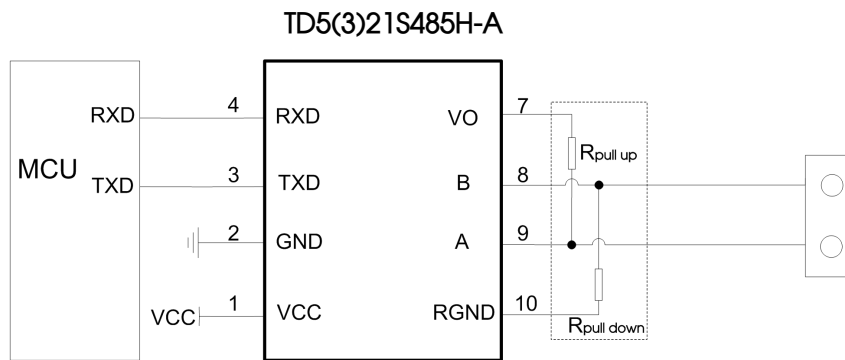
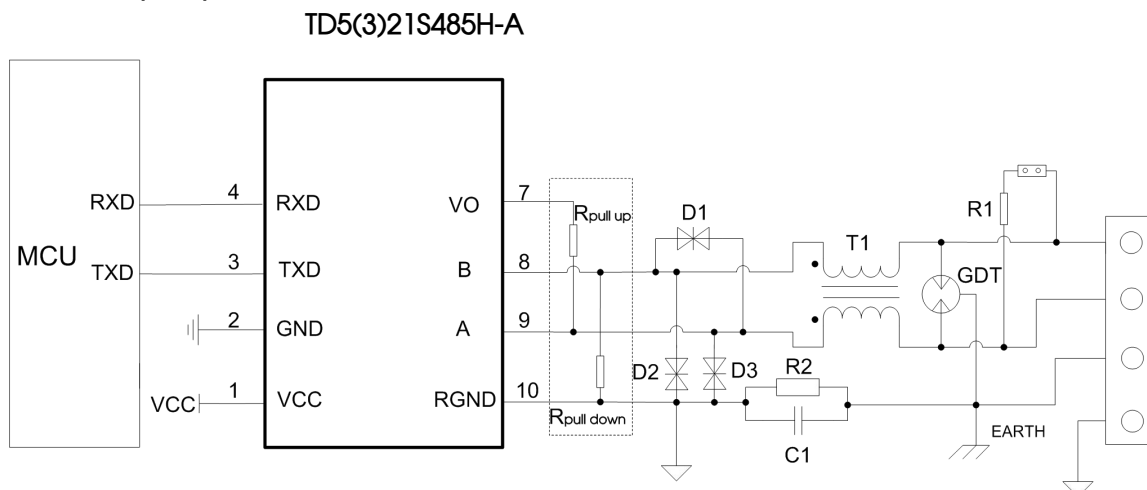

Fig.1
Fig.2
IEC/EN 61000-4-2	Contact $\pm 8kV$ (see Fig.2, A,B port) Perf. Criteria B
IEC/EN 61000-4-5	$\pm 4kV$ (see Fig.2, A,B port) Perf. Criteria B
As shown in Figure 1, the picture shows TD5 (3) 21S485H-A isolated transceiver module typical connection circuit, R pull-up, R pull-down for the external reserve pull-down resistor bit, according to the actual situation to choose whether the need for external up and down resistance. TD5(3)21S485H-A isolated transceiver module has built-in 47kΩ pull-down resistor, under normal circumstances the use of internal pull-up, pull-down resistor to meet the demand.
As the module internal A / B line comes with ESD protection, so users generally apply to the environment in good circumstances without additional ESD protection devices, as shown in Figure 1, the typical connection circuit. But if the application environment is relatively poor) such as high voltage power, lightning and other environments), it is recommended that users must be in the module A / B line side plus TVS tube, common mode inductors, Gas discharge tube, shielded twisted pair or the same network single point Earth and other protective measures. Therefore, the recommended application circuit shown in Figure 2, the recommended parameters as shown in the table. Recommended circuit diagram and parameter values for reference only, according to the actual situation to determine whether the need for circuit diagram of the device and the appropriate parameter values.